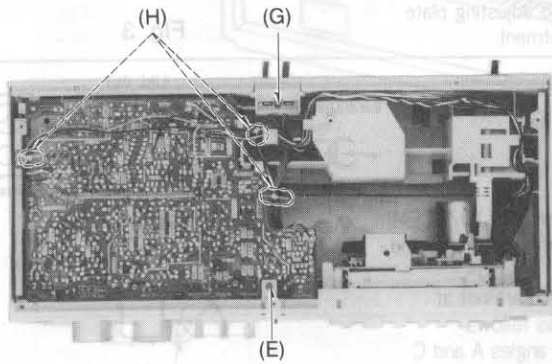

Fig. 3
<p>A Head position adjustment</p> <p>Condition:</p> <ul style="list-style-type: none"> <li>• Playback and pause mode</li> </ul>	<p>(The head adjusting plate is provided to adjust the tape touch of the head in cue or review mode.)</p> <ol style="list-style-type: none"> <li>1. Press the playback button and pause button.</li> <li>2. Measure the space between the pressure roller and the capstan.</li> </ol> <div style="border: 1px solid black; padding: 5px; width: fit-content; margin: 10px auto;"> <p>Standard value: <math>0.5 \pm 0.3\text{mm}</math></p> </div> <ol style="list-style-type: none"> <li>3. If the measured value is not within the standard value, untighten screw (A), and slide the head adjusting plate in the direction of arrow (B) for adjustment.</li> </ol>  <p style="text-align: center;">Fig. 3</p>